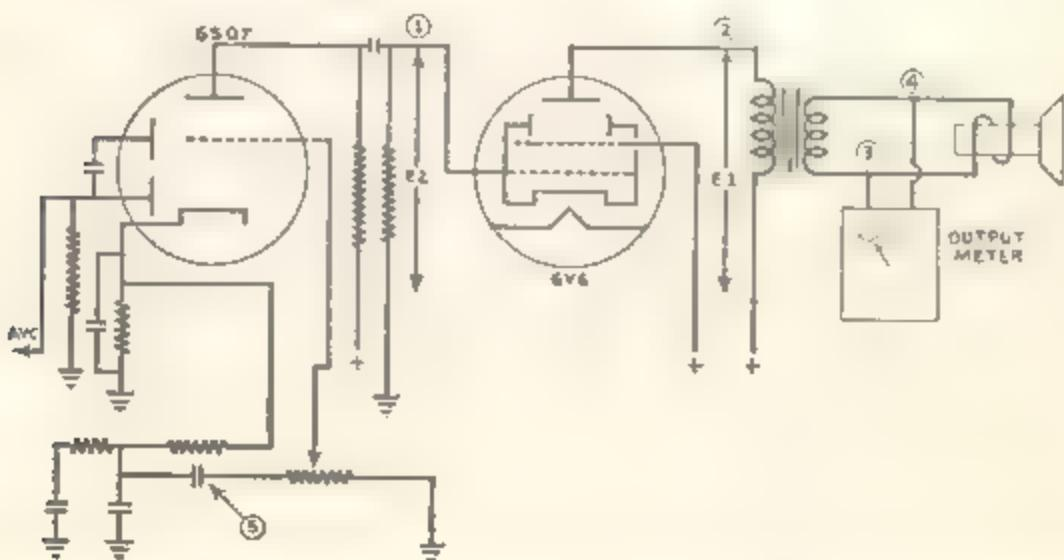

Figure 7 Simplified Circuit of Audio Amplifier Section of Radio Receiver
Since the purpose of a tube and its associated circuits, in most cases, is to amplify the signal, a measurement of its ability to amplify is the best indication of its condition. This is called stage gain and is illustrated in Figure 7 which represents a 6V6-6L6 tube in the output stage of a radio receiver. Here the input voltage is represented by E_2 and the output voltage by E_1 . The stage gain is expressed by the ratio of E_1 to E_2 or E_1/E_2 . If E_2 is 3 volts and E_1 is 30 volts, then the gain is $30/3$ or 10. If E_2 were 1 volt and E_1 were 10 volts, the gain would be the same, $10/1=10$. Therefore it can be seen that it is the ratio between the input and output voltages that indicates the stage gain and that the actual voltage applied to the input is not important, provided it is high enough to give a usable signal and not high enough to overload the tube. An output pentode can be expected to have a gain of from 10 to 20, a beam power tube a gain of from 20 to 30 while a triode will have a gain of only from 2 to 5.
Output readings usually are taken across the voice coil as shown by points (3) and (4) in Figure 7. Due to the step down ratio of the output transformer, which is often higher than 30 to 1, the voltage appearing across points (3) and (4) will be in the same ratio. Hence, if E_2 is 3 volts and E_1 is 30 volts, then the voltage across points (3) and (4) will be $30/30$ or 1 volt if the step down ratio is 30/1. In measuring stage gain, the general procedure is to select some value of voltage appearing across the voice coil circuit and determine the voltages necessary to apply to different stages to produce the same voltage across the voice coil. The ratio between these voltages indicates the stage gain. In laboratory measurements this is usually stated in terms of the number of microvolts necessary to produce an output of .5 watts (.05 for
2. Connect the Model 340 output lead to the input grid of the output tube of the radio receiver as shown at point (1) in Figure 7.
3. Connect an output meter across the voice coil as shown at points (3) and (4) in Figure 7. Set it on the 2.5 AC range.
5. Measure the output of the Model 340 being fed into the grid at point (1). Use either a V.T.V.M. or a copper oxide type of meter for this purpose. This reading may, for example, be about 2 volts and is represented by E2.
6. If a V.T.V.M. is available, measure the signal voltage at the plate of the 6V6 tube, point (2) in Figure 7. A Copper oxide meter can be used for this purpose with a series condenser if correction is made for the condenser. The reading at this point may be about 60 volts which is represented by E1. The gain of the stage is therefore E1/E2 or $60/2=30$. The low reading of 1 volt appearing at points (3) and (4) across the voice coil is due to the step down ratio of the output transformer. This voltage will usually be less than the input voltage applied at Point (1).
2. Connect the output of the Model 340 to the input of the triode section of the 6SQ7 tube, point (5) in Figure 7 (across the volume control). Turn the volume control to its maximum position.